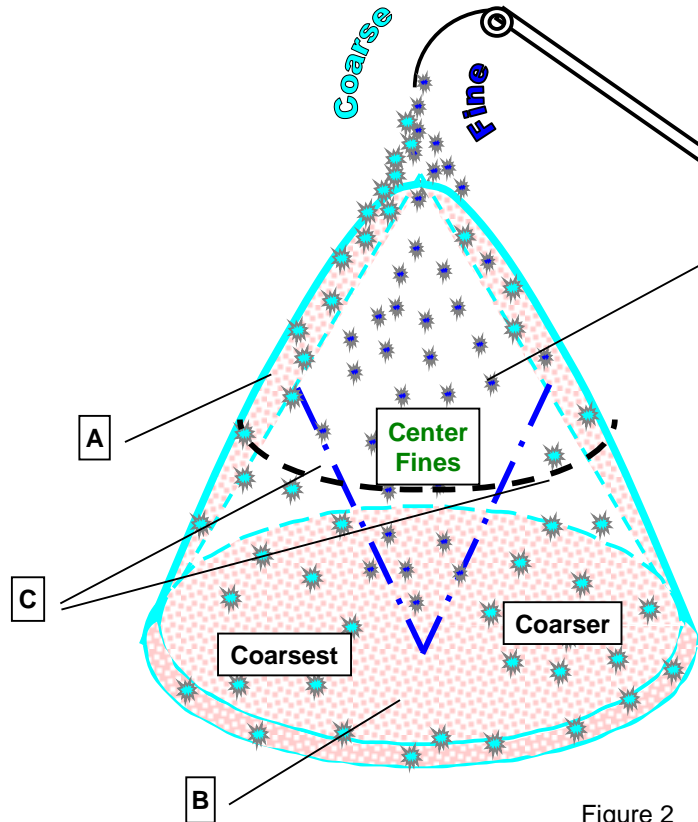

Figure 2
- ② Coarse material segregates and rolls to outside and bottom of pile. Fines tend to fall straight down and travel a shorter distance as they fill in voids between coarse particles. (See Fig. 2)